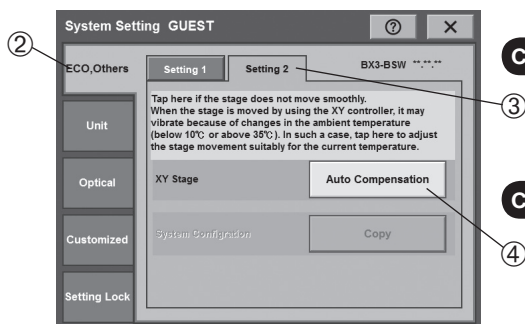

Fig. 6
1. Place BX3-SSU over BX63 so that the respective screw numbers (see the Fig. 6) of BX3-SSU and BX63 are overlapped.
2. Tighten the screw hole ① with the clamping screw (attached with BX3-SSU) from the upper side of BX3-SSU. Use Allen wrench (40x70mm) attached with BX63 for tightening.
3. Tighten the screw holes ② and ③ with the clamping screw (attached with BX63) from the lower side of the stage fixing pillar of BX63. Use Allen wrench (40x70mm) attached with BX63 for tightening.